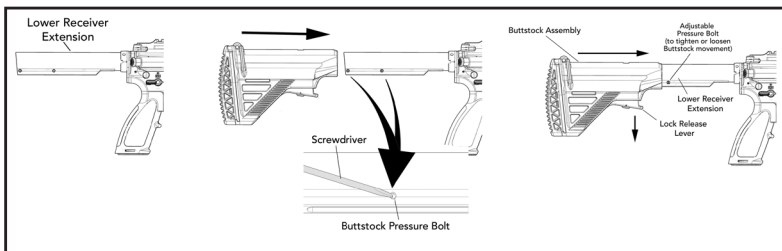

Fig. 50 – Buttstock reassembly
- b. Two small set screws are located on the bottom of the receiver extension (buffer tube). These set screws are provided to eliminate any play that may develop between the buttstock and the extension. The left hand side of the set screw features a detent surface that engages the buttstock. The right hand surface features a cut to accommodate a small straight slot screwdriver. Rotating the set screws clockwise will tighten the detents to the buttstock; rotating the setscrews counter clockwise will loosen the buttstock. Using a straight slot screwdriver, rotate the set screws clockwise using quarter turns and adjust until the detents engage the buttstock but do not hinder removal or installation (Fig. 50)